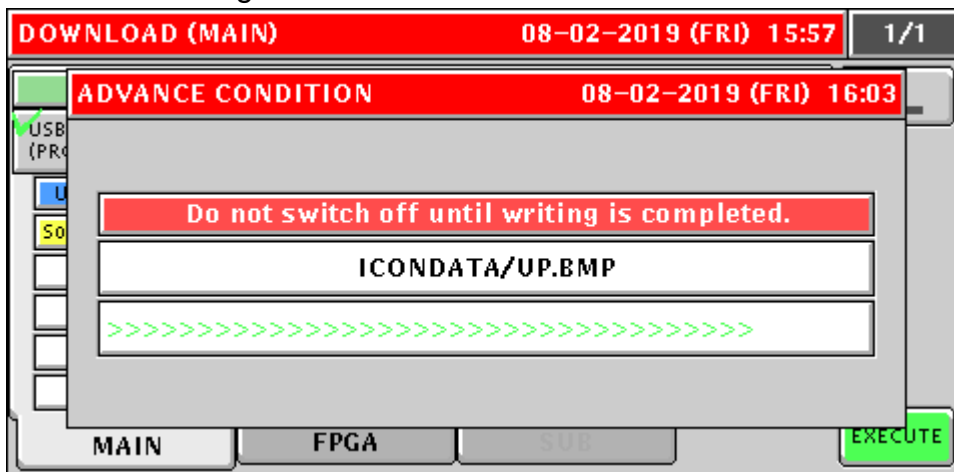

Figure 45. Firmware Download – This May Take Up to 12 Minutes
- s. The screen will show the firmware download progress. See Figure 45.